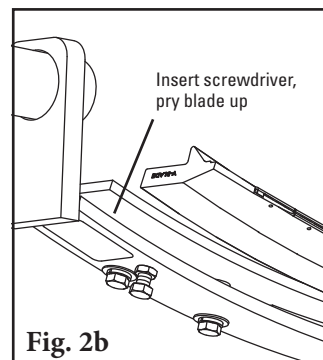

Fig. 2b
- c. From one end, insert a screwdriver under the blade and lightly pry the blade up and out of the blade holder (Fig. 2b). Once the blade breaks free, pull it out by hand.